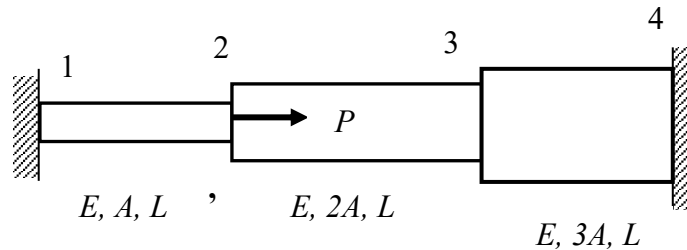

Figure 5
- (3). (a). Write the element stiffness matrices and global matrix for the three bars assembly which is loaded with force P , and constrained at the two ends in terms of E , A and L as shown in **Figure 5**.